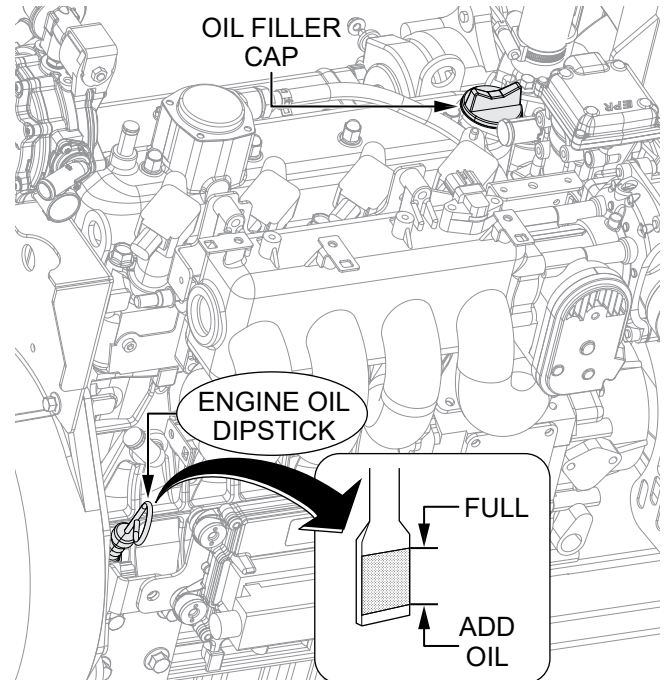

Figure 16. Engine Oil Dipstick And Filler Cap
2. Pull the **engine oil dipstick** (Figure 16) out of its holder and wipe it with a clean rag.
4. Determine if engine oil is low. Oil should be between the upper and lower marks (Figure 16) on the dipstick.
5. If the oil is below the lower mark on the dipstick, remove the **oil filler cap** (Figure 16) and add engine oil up to the upper mark on the dipstick. Refer to Table 3 for engine oil capacity and Table 7 for recommended oil viscosity.